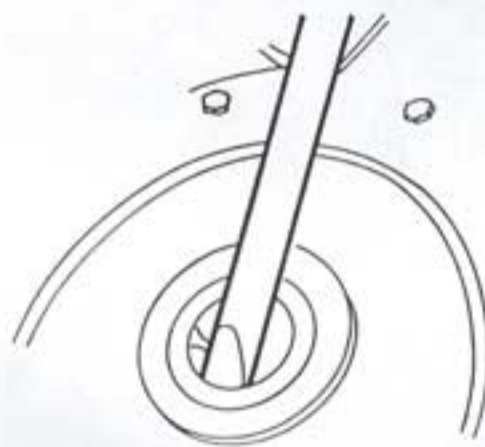

Fig. 3
- Remove the two oil deflectors using a screwdriver and take care not to drop the balls, diameter 5.5mm (11 balls on each side, fig. 3).